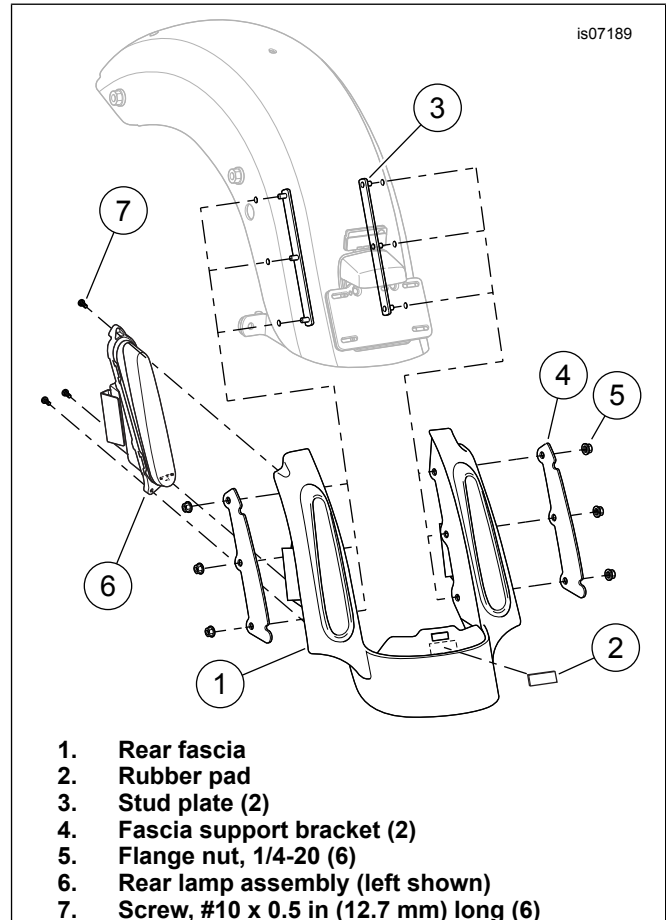
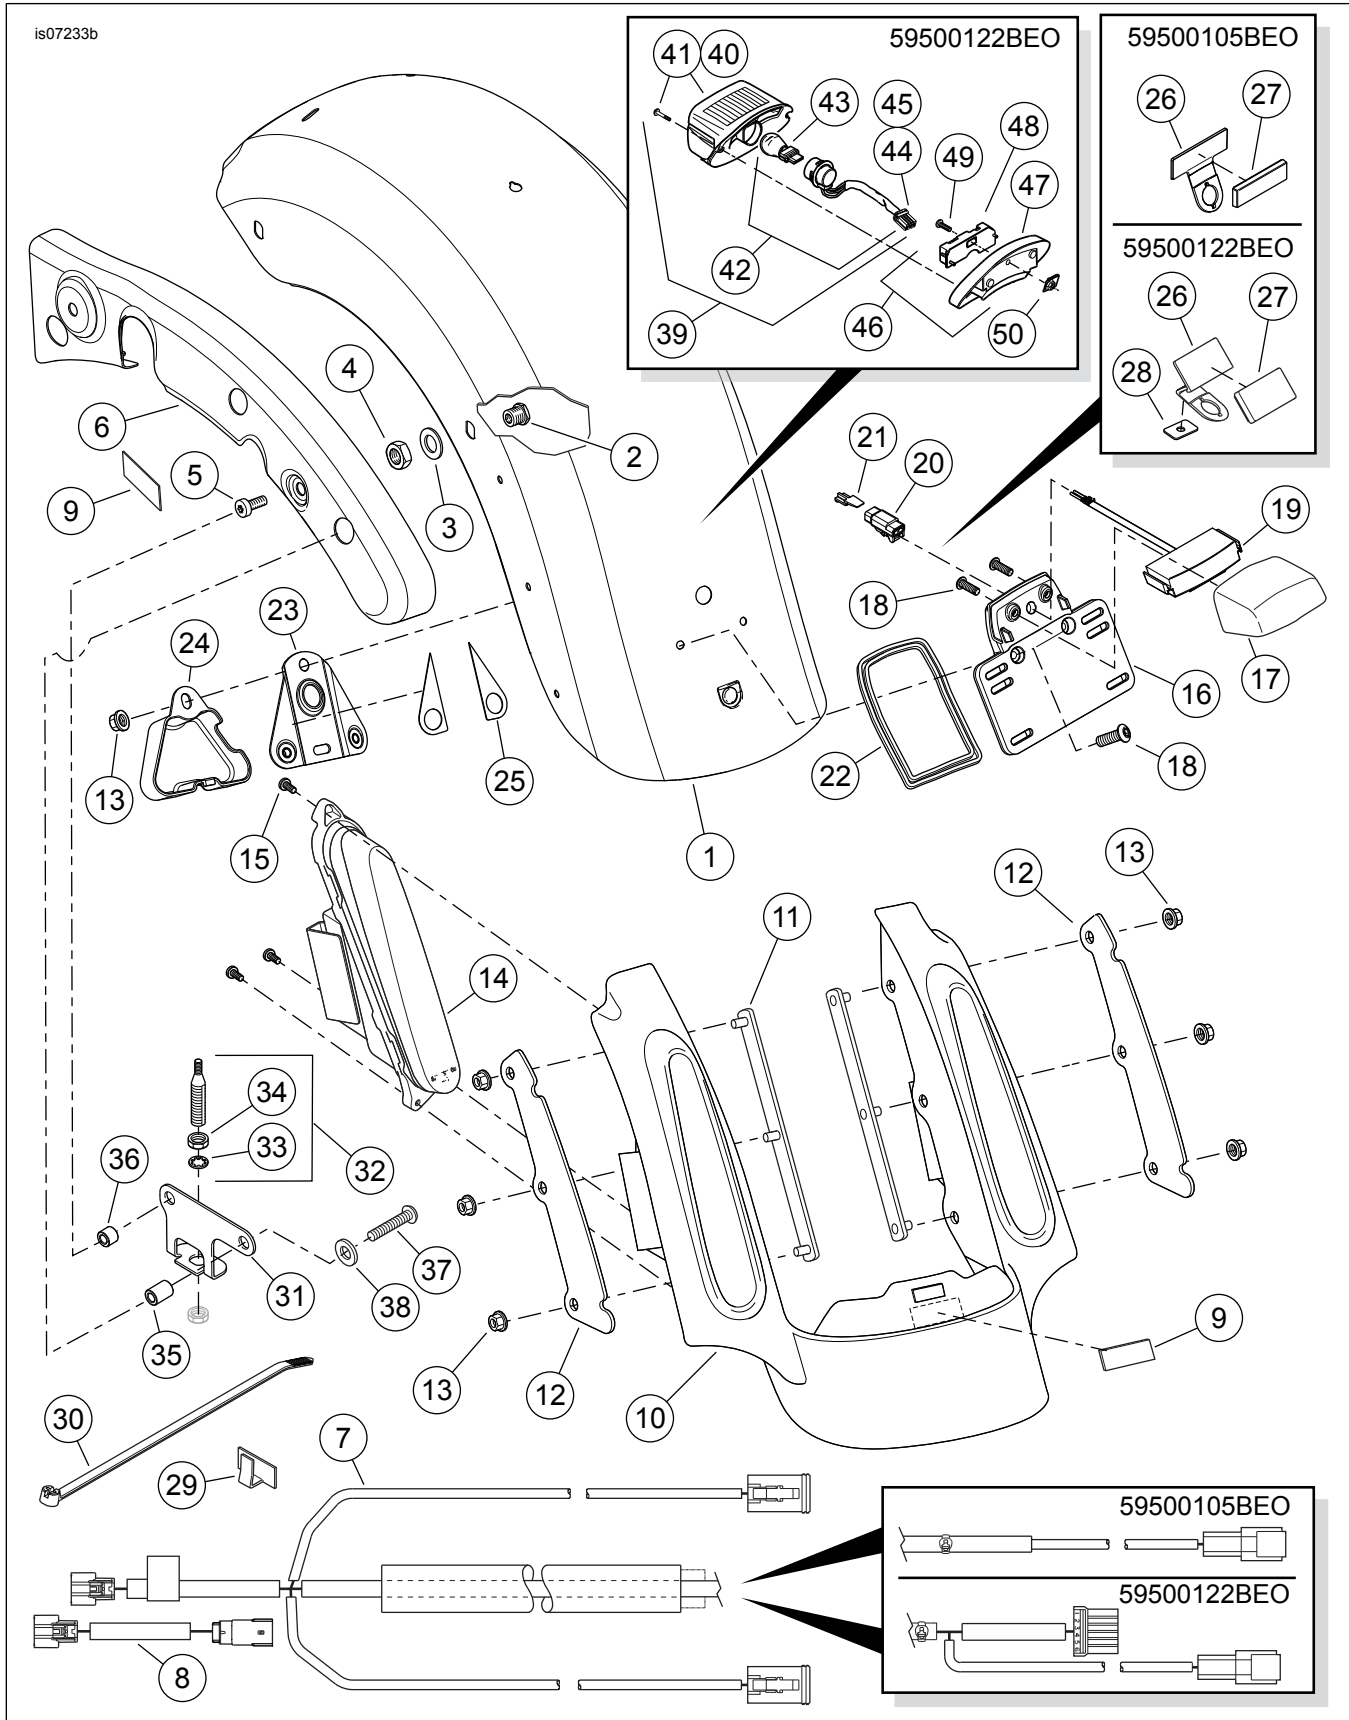

Figure 5. Rear Fascia Installation
Figure 6. Service Parts, FL Touring CVO-Style Rear Fender Kits
2. See Figure 5. Remove the liner from the adhesive backing of the 44.5 x 19 x 1.6 mm (x in) rubber pad (2). Position the pad to the center of the fascia (1), just below the slot as shown. Press firmly into place.
3. Position the fascia under the rear edge of the fender, aligning the three holes on each side of the fascia with the mating holes in the fender. Insert the three studs of a stud plate (3), from beneath the fender, through the holes in the fender and fascia on one side.
1. See Figure 6. Disconnect the antenna cable from the antenna base assembly.
6. Obtain the new antenna bracket (31), new Spacers (35 and 36), new screws (37), new flat washers (38), and new antenna base assembly (31).
7. Position the antenna bracket near the fender supports as shown in Figure 5 and fasten the bracket to the fender supports:
- a. Assemble the thin washer (38) to the screw threads.
- c. Slide the spacers onto the threads that are extending through the bracket. Note the spacer lengths. Reference Figure 5.
8. Install internal tooth lockwasher (33) from the kit onto the larger threads of the antenna base (32), under the hex nut (34). Insert the antenna base through the hole in the antenna mounting bracket.
9. Install the second hex nut (34) onto the threads of the antenna base. Place a wrench on the upper nut and tighten the lower nut to 8 N·m (6 ft-lbs).
12. Thread the antenna mast assembly securely onto the antenna base (31).
2. See Figure 6. Get four 5/16-18 x 25.4 mm (1 in) long fender mounting screws (5) from the kit. Loosely install a screw through the rear frame rail into the rearmost fender mounting boss on each side.
9. **FLHTCU/SE models:** Install the chrome fender support covers removed earlier. **ALL models EXCEPT FLHTCU/SE:** See Figure 6. Install the finish painted fender support covers (6) from the kit.